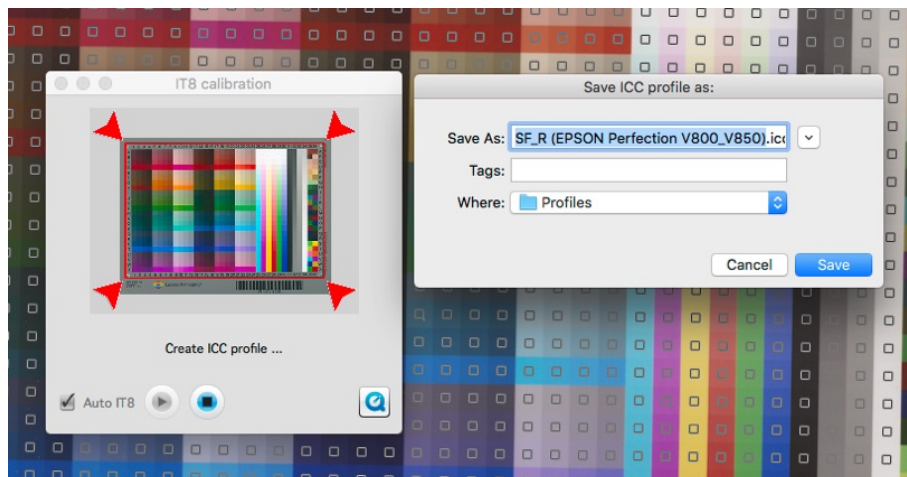
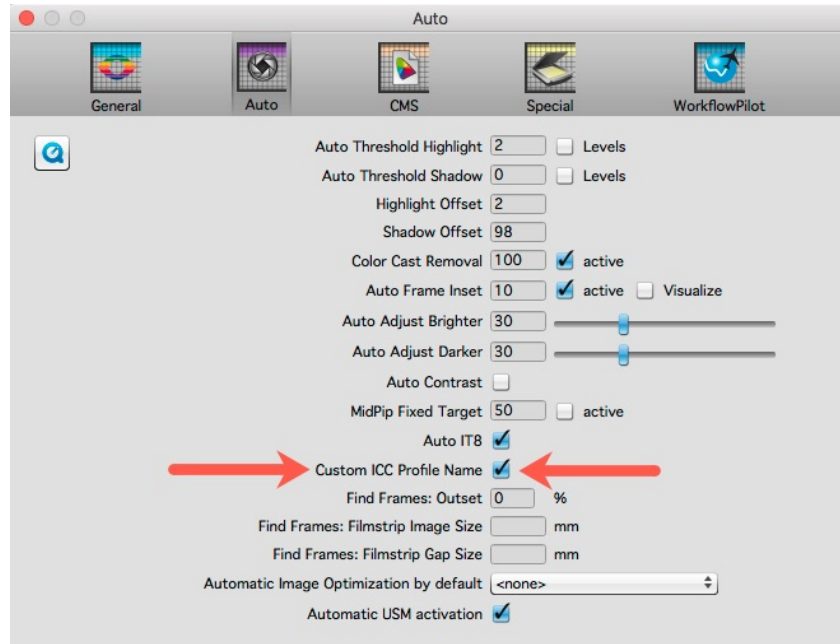

Figure 4. Profile Naming
Figure 5. Custom Naming in Preferences
7. Click OK on the results window and the software opens the profile naming and save location window (Figure 4). You're done. **[Important:** the option for the user to name the profile only appears if enabled in Preferences (Auto tab) (Figure 5). Make sure to enable custom naming before starting. This shouldn't be optional, but it is.]